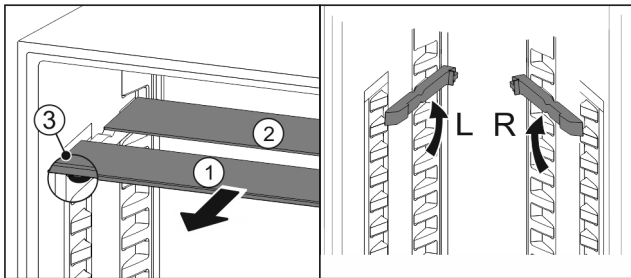

Fig. 54
- ▶ Pull the glass panels out Fig. 54 (1) from the front, one at a time.
- ▷ The glass panel Fig. 54 (1) and trim strip are at the front.
- ▷ The stops Fig. 54 (3) point down.